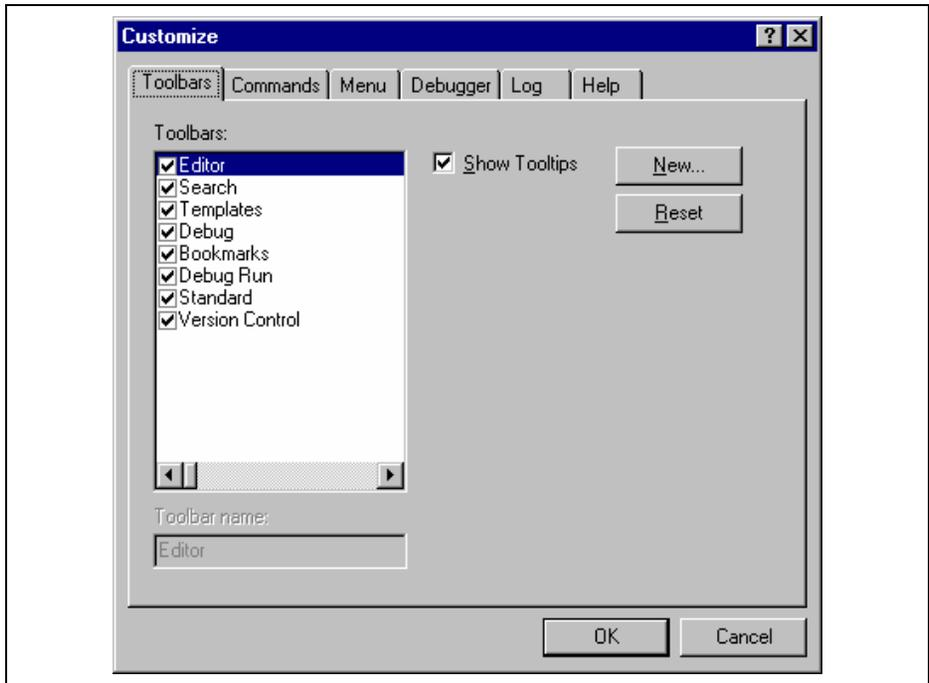
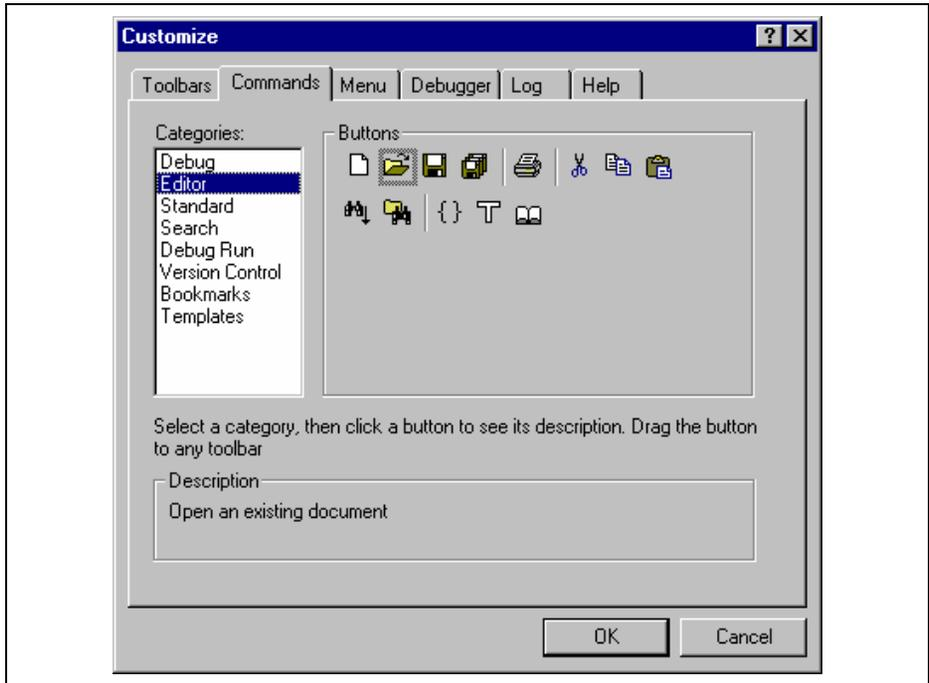
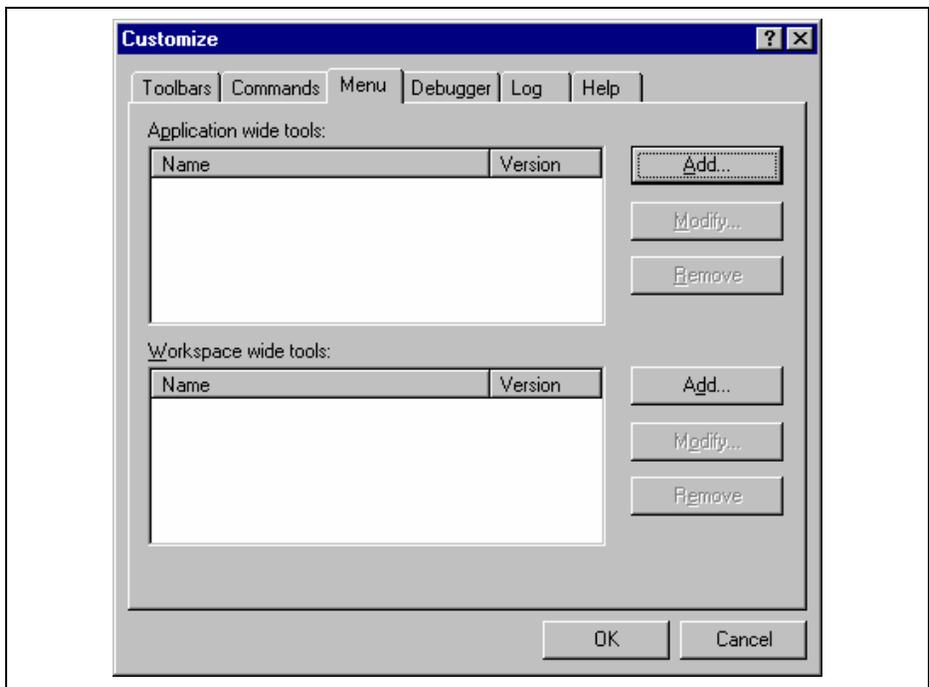
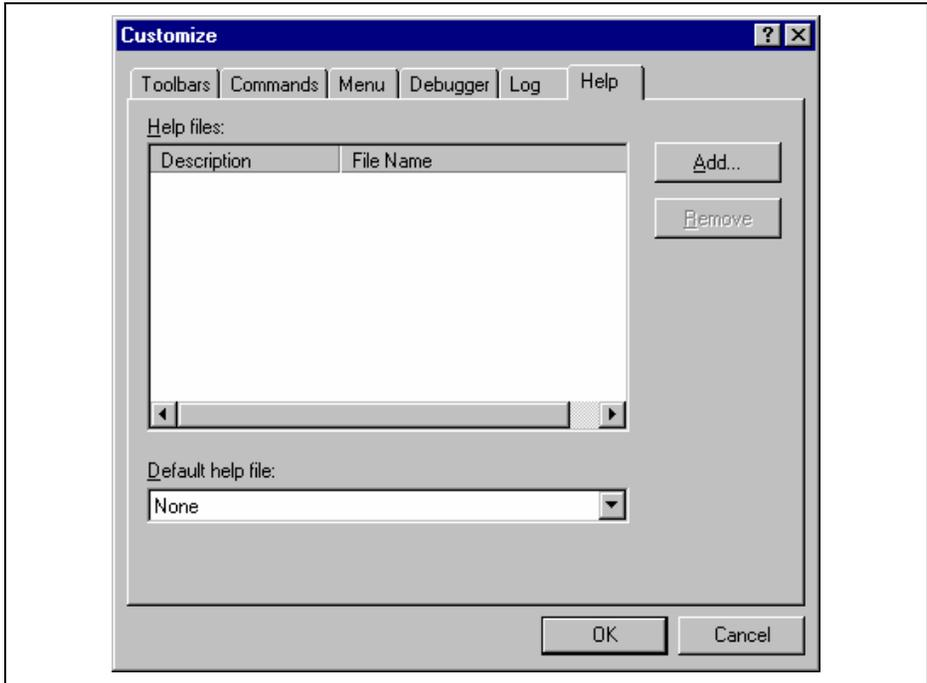

Figure 6.1: Customize Dialog Toolbars Tab
Figure 6.3: Customize Dialog Commands Tab
Figure 6.4: Customize Dialog Menu Tab
Figure 6.7: Customize Dialog Help Tab
The High-performance Embedded Workshop provides 2 standard toolbars as detailed in chapter 1, “Overview”. In addition to these, you may also construct your own toolbars via the “Customize” dialog (figure 6.1).
1. Select [**T**ools->**C**ustomize...]. The dialog shown in figure 6.1 will be displayed.
1. Select [Tools->Customize...]. The dialog shown in figure 6.1 will be displayed. Select the “Commands” tab (see figure 6.3).
1. Select [**Tools->Customize...**]. The dialog shown in figure 6.1 will be displayed. Select the “Commands” tab (see figure 6.3).
1. Select [**Tools->Customize...**]. The dialog shown in figure 6.1 will be displayed.
2. Select the user-defined toolbar from the “Toolbars” list, and the “Reset” button in figure 6.1 changes to the “Delete” button. Then click the “Delete” button.
1. Select [**Tools->Customize...**]. The dialog shown in figure 6.1 will be displayed. Select the “Menu” tab (see figure 6.4). The first thing for you to decide is whether you are adding a global application wide tool (“Application wide tools:”), which will be available to all of your workspaces. Or whether you wish to add a workspace wide tool (“Workspace wide tool:”), which is only valid for the current workspace. Once you have made the choice choose the relevant section of the dialog.
1. Select [**Tools->Customize...**]. The dialog shown in figure 6.1 will be displayed. Select the “Menu” tab (see figure 6.4).
1. Select [**T**ools->**C**ustomize...]. The dialog shown in figure 6.1 will be displayed. Select the “Menu” tab (see figure 6.4).
1. Select [**T**ools->**C**ustomize...]. The dialog shown in figure 6.1 will be displayed. Select the “Help” tab (see figure 6.7).